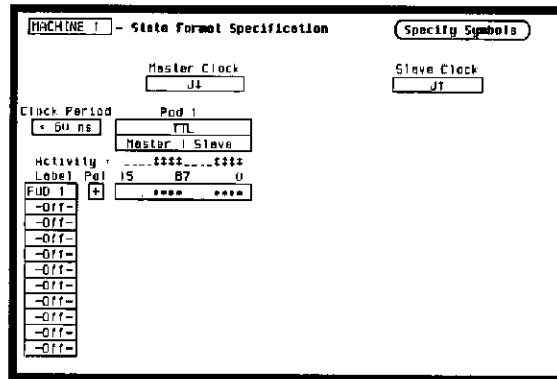

Figure 3-23. State Format Specification for Data Test 5
4. Set up the State Format Specification as in figure 3-23, assigning the falling J clock to Master Clock and the rising J clock to Slave Clock. Refer to steps a through d after figure if unfamiliar with the menu.